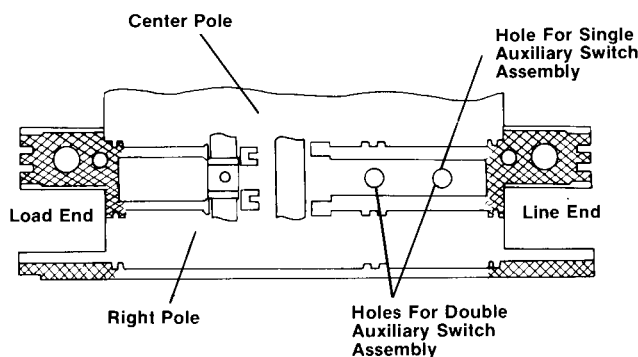

Fig. 4
3. Following Fig. 4, thread auxiliary switch wire leads through proper hole(s) that have been previously drilled at the line end. For one auxiliary switch, use the hole closest to the line end connectors. For two switches, use both holes drilled as indicated in the drill guide on page 8.